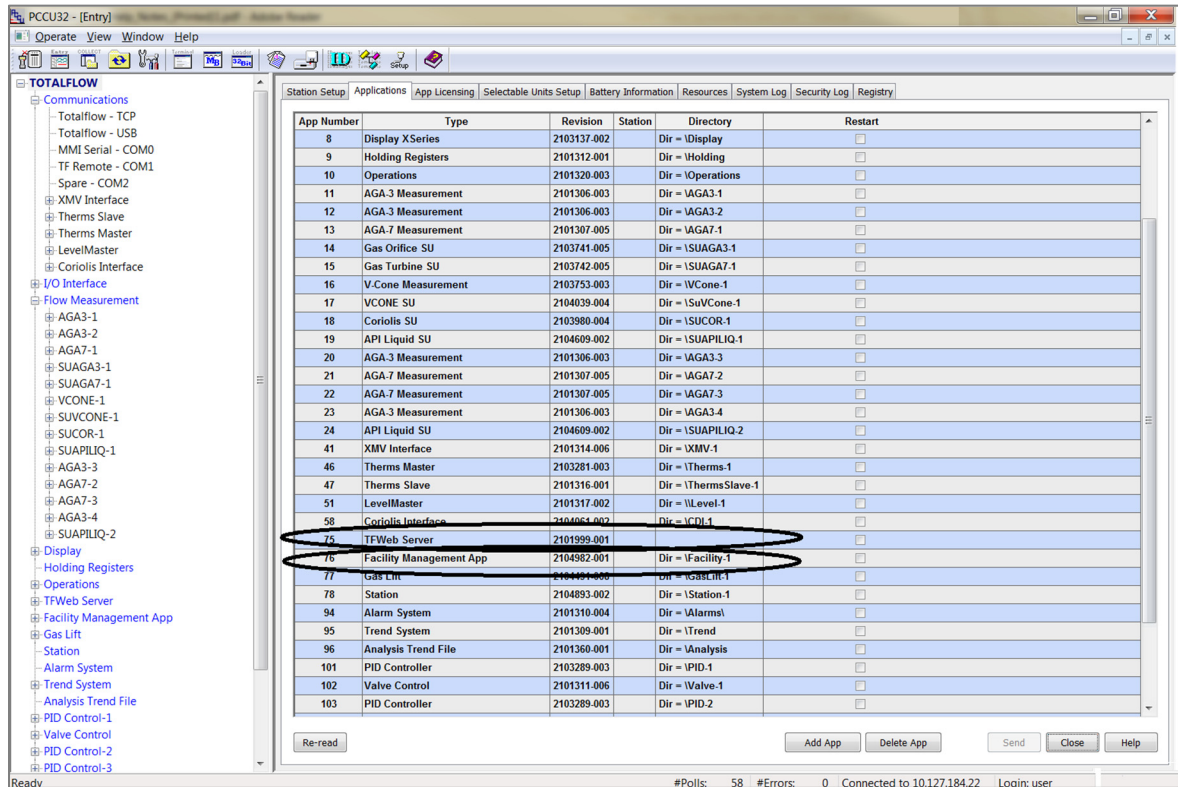

Figure 6: TFWeb server application added successfully
6. Click re-read to verify the application has been added and it now appears in the application list associated with the correct application number. The application is also added to the configuration tree view on the left and should be added under the **System** applications (Figure 6).
6. Click re-read to verify the application has been added and it now appears in the application list associated with the correct application number (Figure 6). The application is also added to the configuration tree view on the left and should be added under **System** applications (Figure 6).